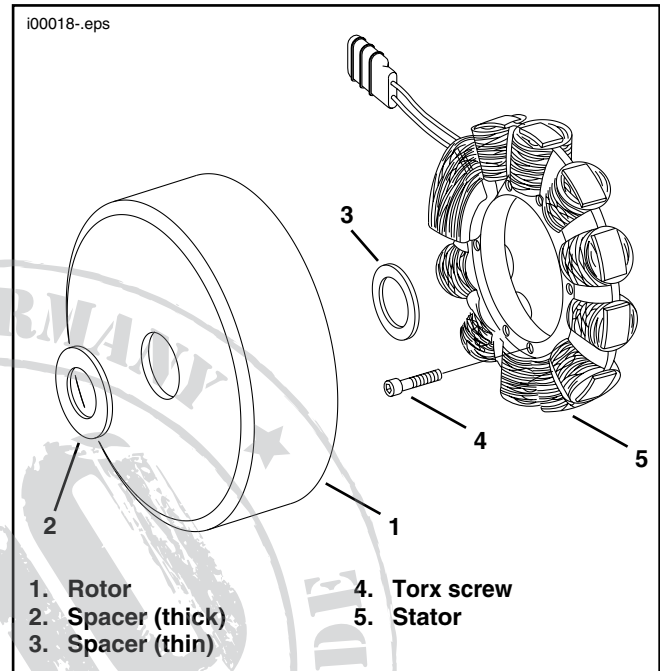

Figure 1. Alternator Installation
3. See Figure 1. When installing rotor and stator use thin spacer inside and thick spacer outside of rotor.